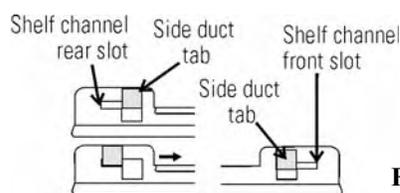

Figure 1-9
3. Install the shelf channels by placing the channel's rear slot over the appropriate rear tab on the shelf support. Pull the shelf channel forward and engage the channel's front slot into the shelf support's appropriate forward tab. Refer to Figure 1-9.